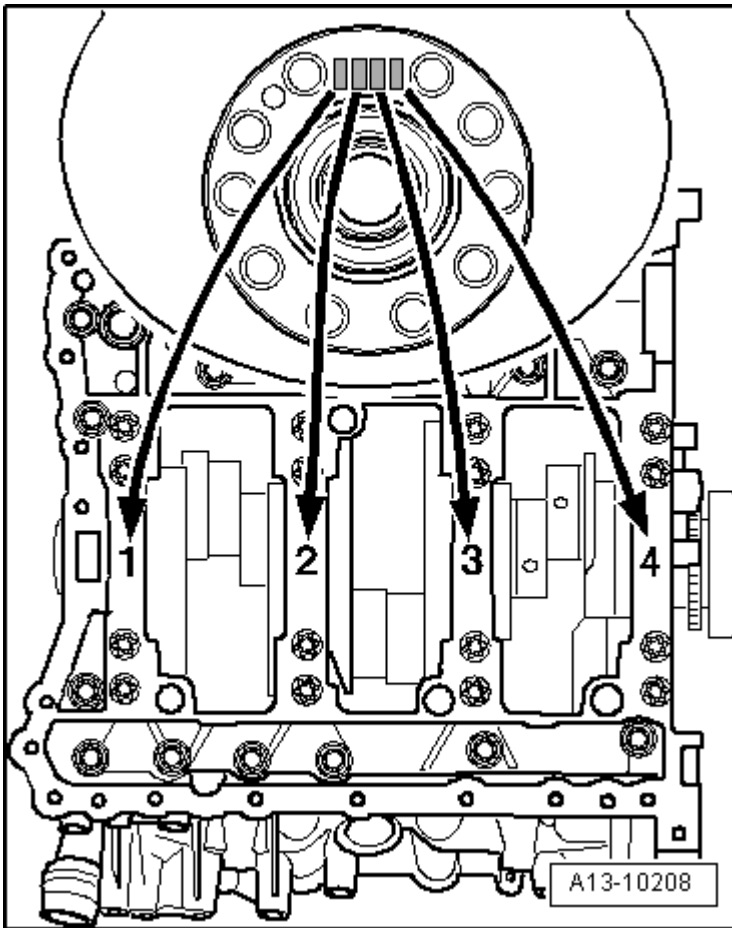

Fig. 7: Allocation Of Crankshaft Bearing Shells For Guide Frame
- Insert new bearing shells for guide frame with proper color marking, refer to **Fig. 7**